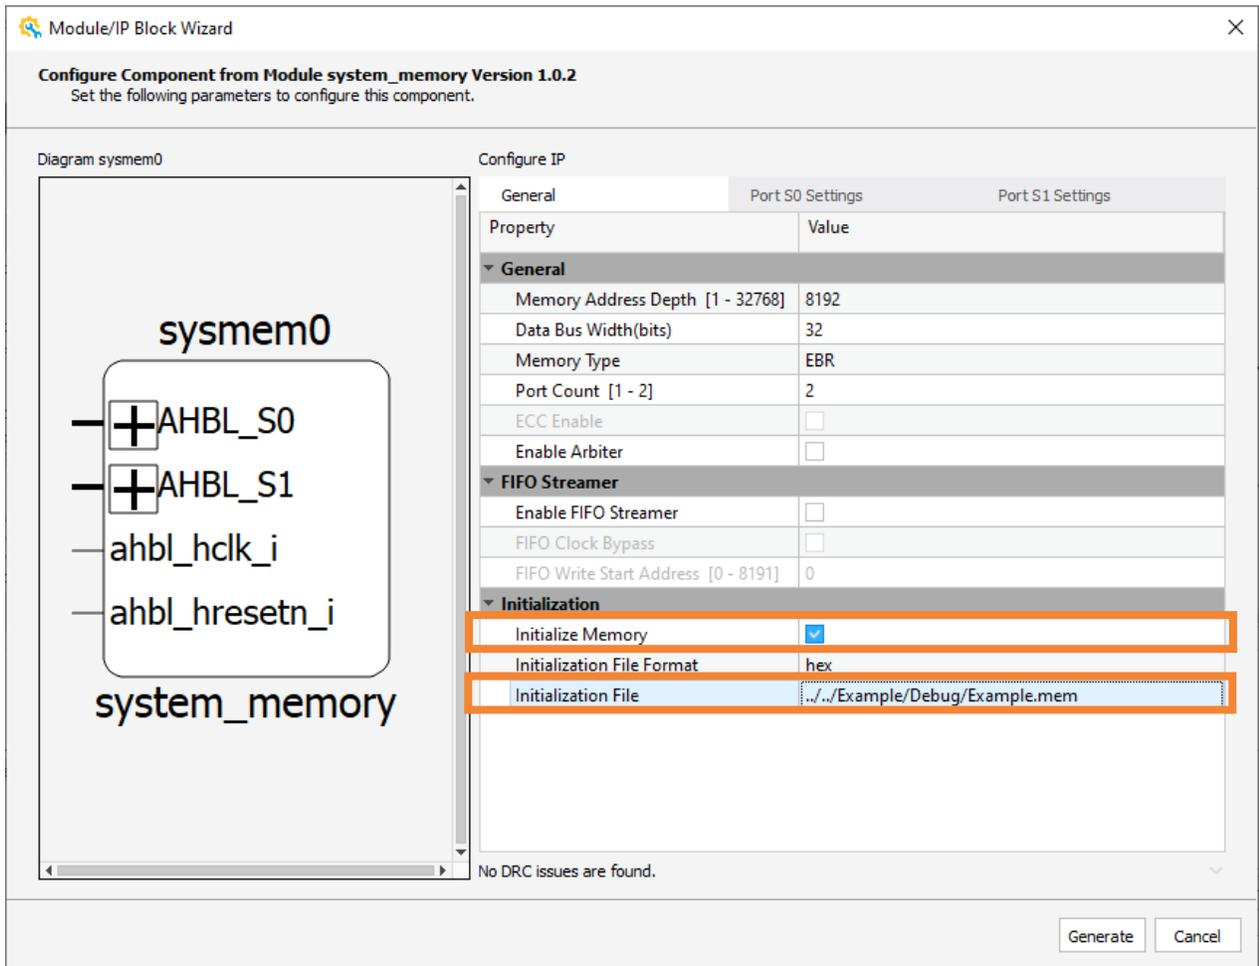

Figure 3.29. Configure Module System Memory
- Enable the checkbox for **Initialize Memory** for system_memory IP module from the **Initialization** area of the **General** tab, and set **Initialization File** generated from the corresponding C/C++ project (Figure 3.29).